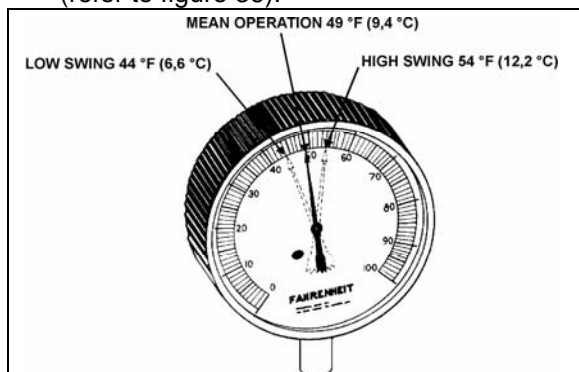

FIGURE 36: HIGH & LOW SWING TEMPERATURE AT REMOTE BULB 22047
- Check approximately 5 readings of pressure at 2-minute intervals and convert to temperature using the vapor-pressure table (page 36). Likewise check the temperature reading at the remote bulb at the same 2-minute intervals and record the low and high swing readings of the needle (refer to figure 36).